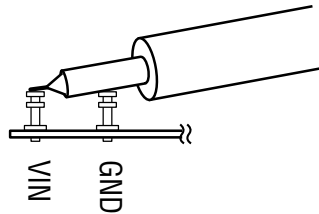

Figure 2. Measuring Input or Output Ripple
**NOTE.** When measuring the input or output voltage ripple, care must be taken to avoid a long ground lead on the oscilloscope probe. Measure the input or output voltage ripple by touching the probe tip directly across the  $V_{in}$  or  $V_{out}$  and GND terminals. See Figure 2 for proper scope probe technique.